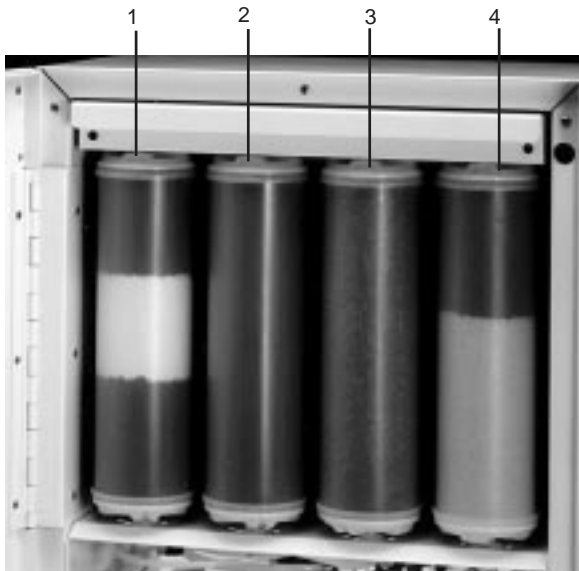

Figure 11 Proper Cartridge Order
2. The cartridges will be installed according to the charts below. Position 1 is the farthest left, position 2 the next one to the right, position 3 the next one to the right and position 4 farthest right. (See Figure 11). Proceed to step 3.